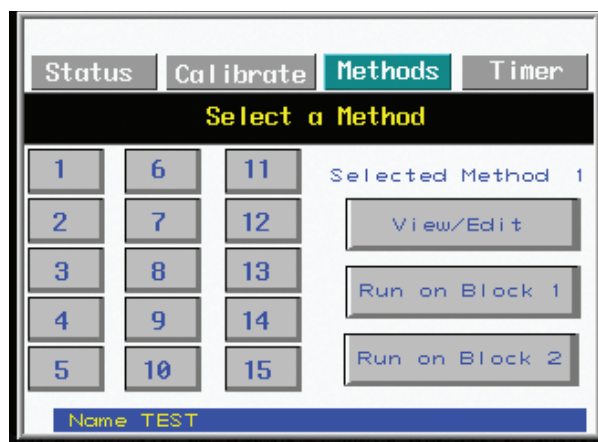

Figure 1. Selecting METHOD from the main menu will take you to the screen shown above (Figure 1). Click on the METHOD NUMBER you wish to program.
- To program a method, select the METHODS tab on the controller. Select the Method Number you wish to program, then select View / Edit (Figure 1).
Name your method AFTER programming all your steps and parameters as described on page 10. To name a method, go to the METHOD tab. Select the method number you wish to name, then click on VIEW/EDIT. This will take you to the screen shown here (Figure 1). Click on the GRAY BAR (indicated in figure 1 by the red arrow) at the top of the screen under the TABS. When you click on this bar, a pop-up keypad will allow you to type in the method name. Then press ENTER. When you choose the METHOD NUMBER you wish to run, the METHOD NAME will appear in the BLUE BOX at the bottom of the METHOD screen (see METHOD screen, Figure 2).
Method Screen, Figure 1. When you click on the gray bar, a pop-up keypad will enable you to type in the method name.